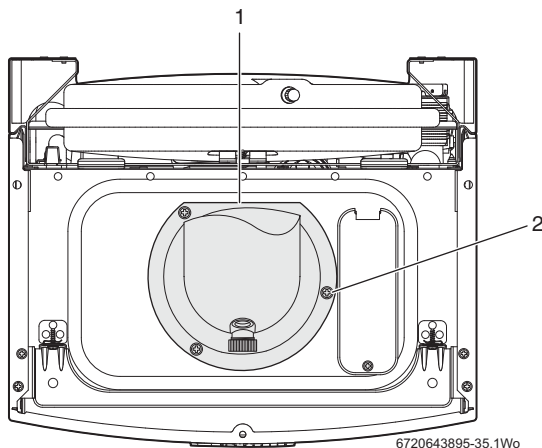

Fig. 43 Aligning the turret
1. Refer to figures 43 and 44 and remove the three inner flue tube retaining screws (2). The inner tube will be held in place in the appliance.
4. Align the flue turret to the boiler flue outlet with flat facing (1) to the rear of the boiler.